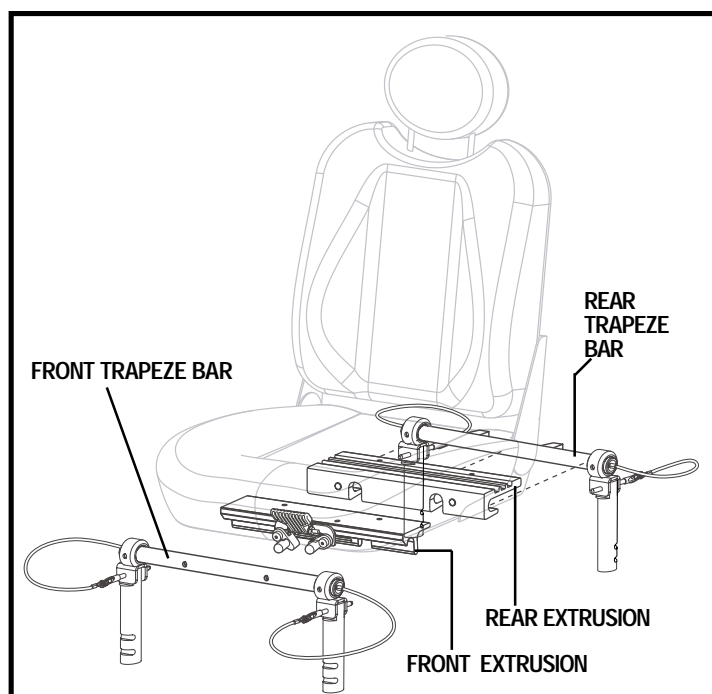

Figure 11. Universal Mounting System
2. Tilt the seat back, and slide the rear extrusion onto the rear trapeze bar. See figure 11.